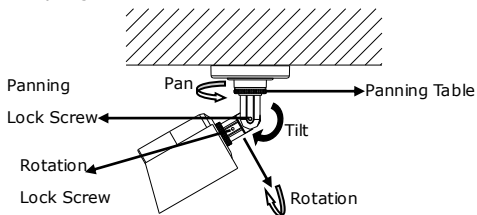

Figure 2-9 Adjust Monitoring Angle
- 2). Loosen the panning table as shown in Figure 2-9.
- 5). Loosen the tilting lock screw as shown in Figure 2-9.
- 8). Loosen the rotation lock screw as shown in Figure 2-9.